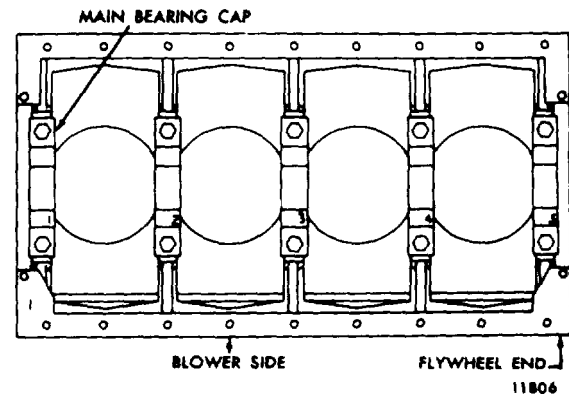

Figure 11B-19. Cylinder Block Markings
2. If a new service replacement block is used, stamp the engine serial number and model number on the pad located in the upper right hand corner on the blower side of the block. Also stamp the position numbers on the main bearing caps (Figure 11B-19) and the position of